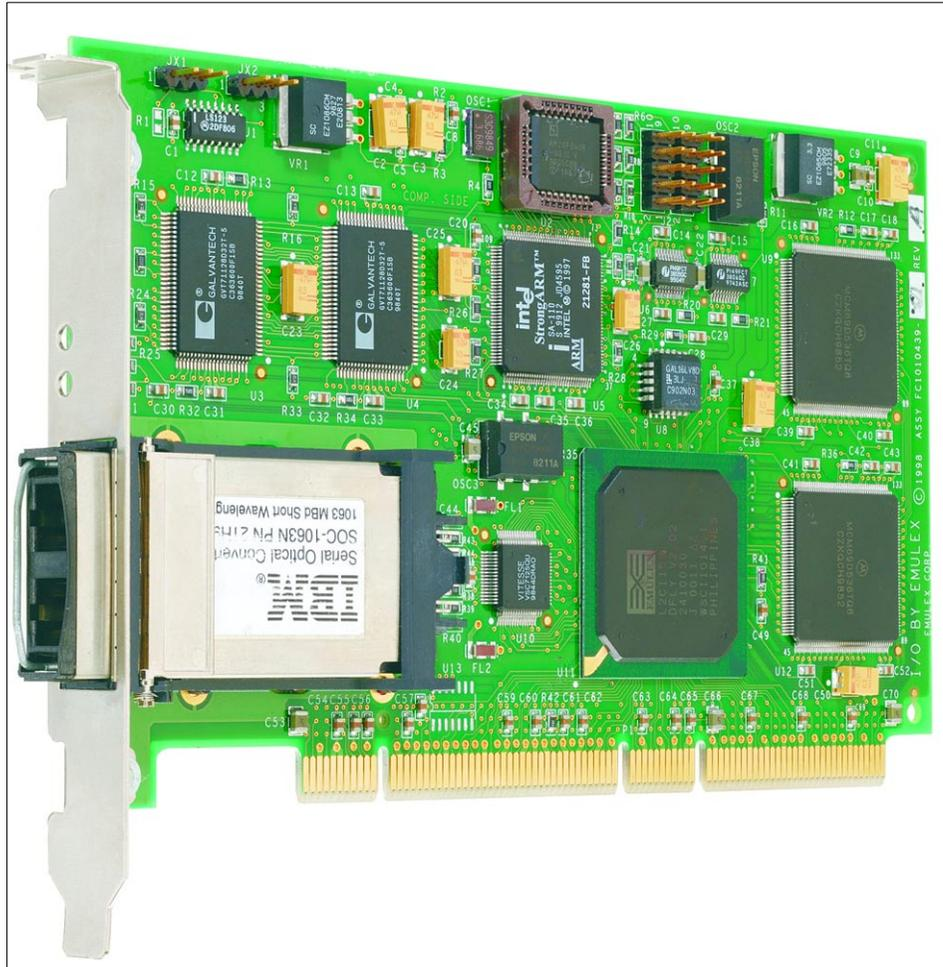

Figure 3-1 Emulex LP8000 adapter
- ▶ Emulex LP8000 - PCI adapter: This requires the latest firmware and driver from Emulex. In Figure 3-1 we show this adapter. It supports “Open Boot” software on Solaris. All downloads, including documentation, are available at the following URL: